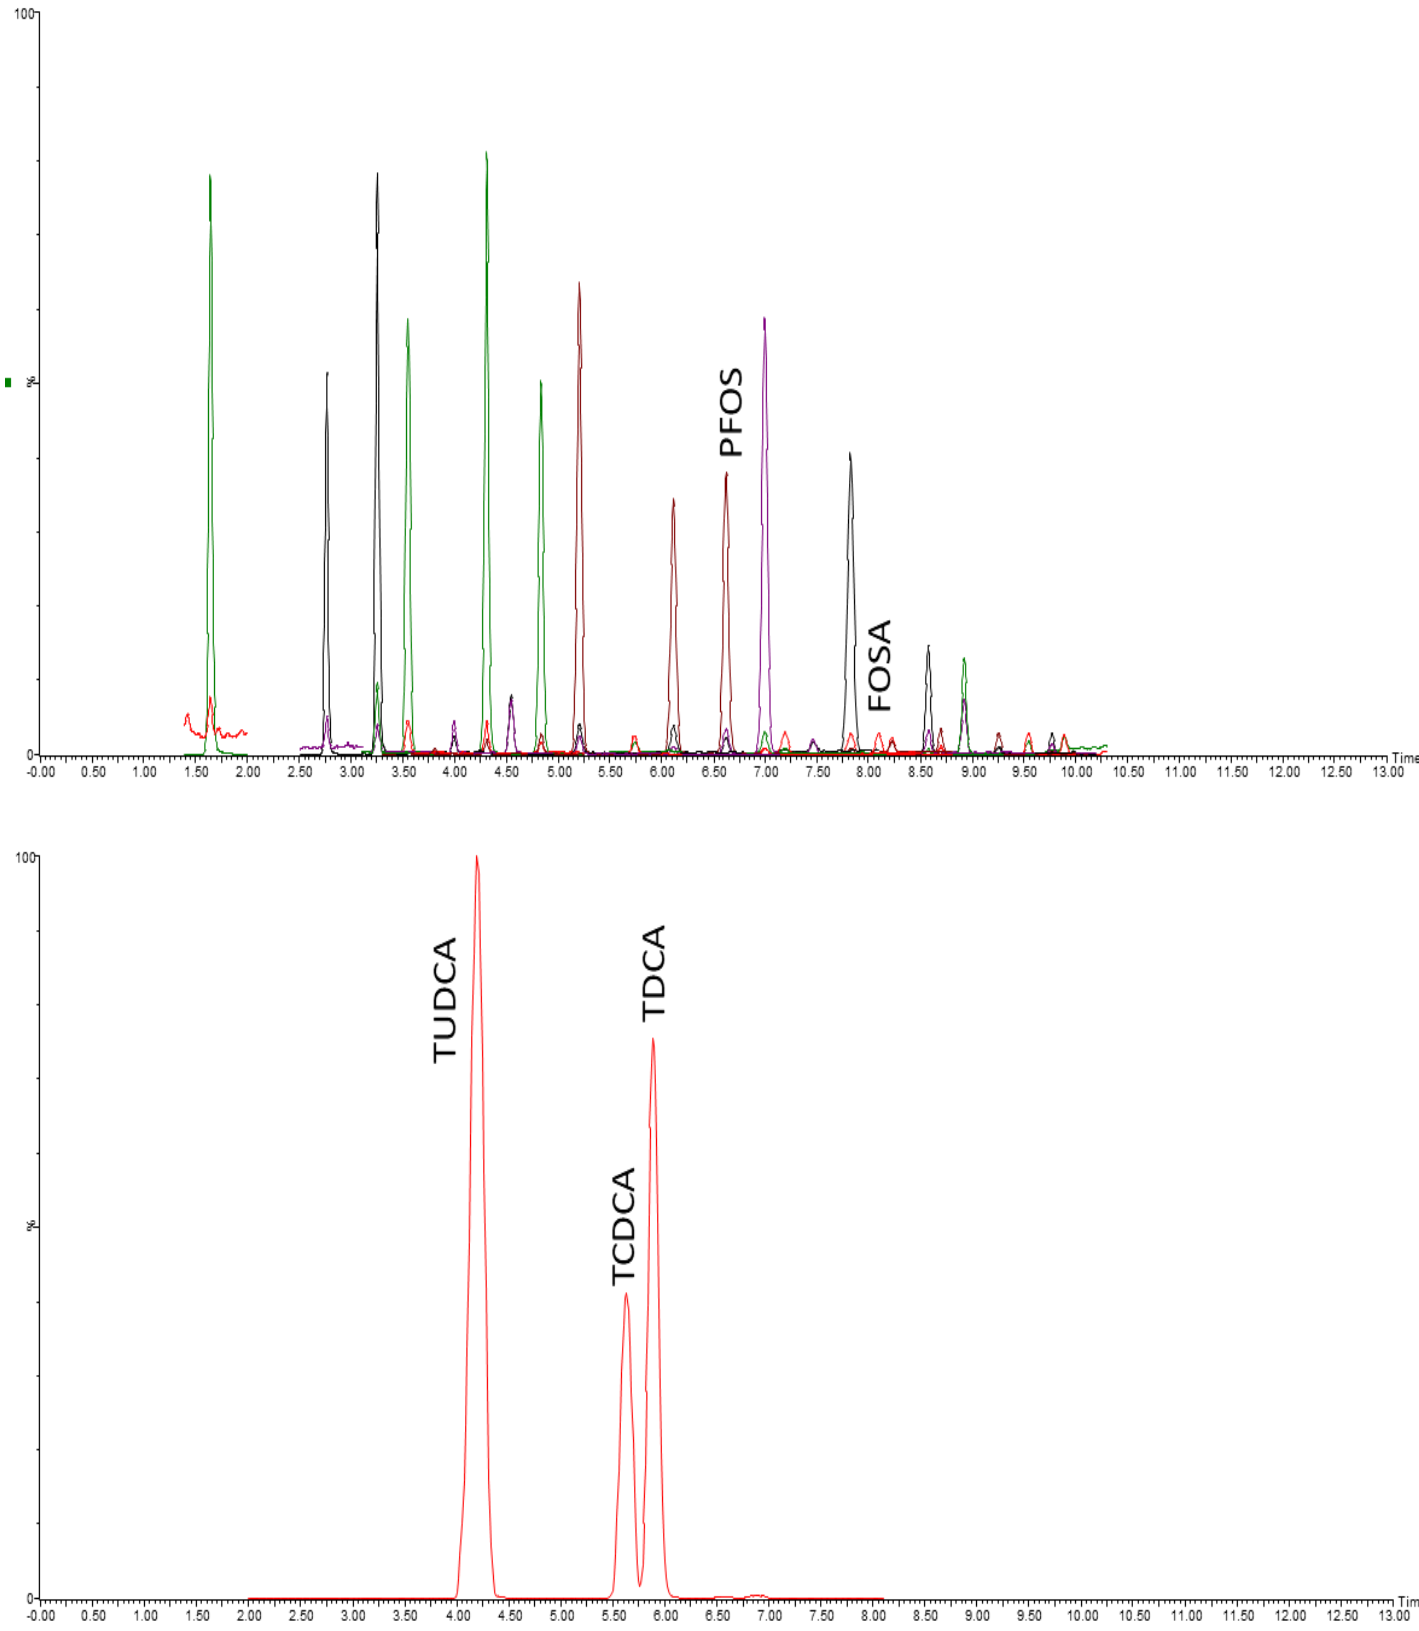

Figure 2: Analytes and bile acids analyzed by final method conditions.
**Chromatographic Performance:** Bile acids can often be of concern when analyzing tissue samples for PFAS. TDCA is an endogenous compound that is formed in the liver and can be detected at high concentrations in samples of animal origin. This compound, along with TUDCA and TCDCA all share the same MRM (m/z 499→80) as PFOS. A method was developed here to ensure the resolution of bile acids from isobaric compounds with excellent resolution (Figure 2).